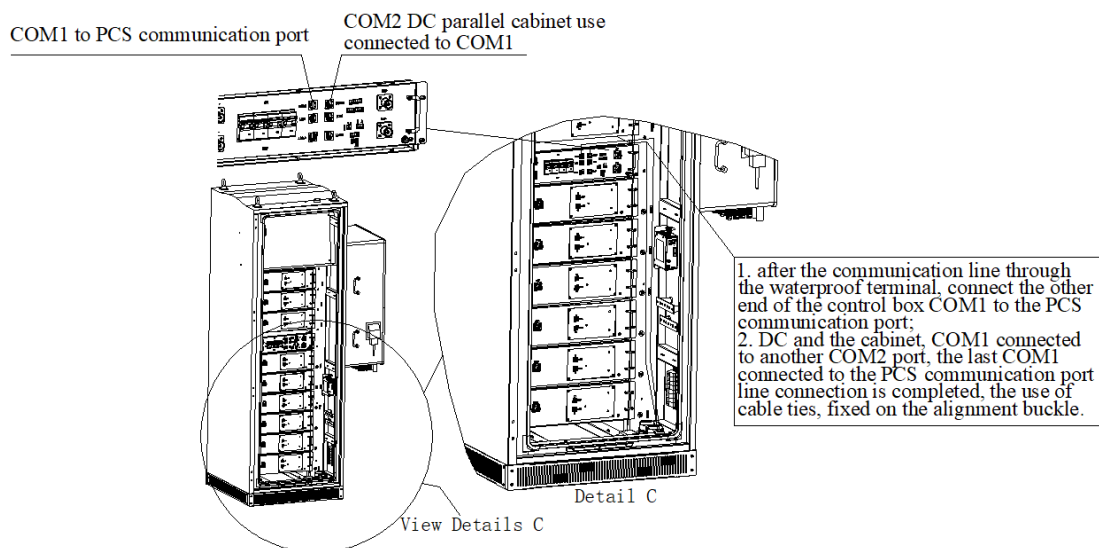

Figure 3-15 Communication Connection Diagram
Step 2: The cable passes through the outlet hole at the bottom of the cabinet and is connected to the inverter COM, as shown in Figure 3-15.